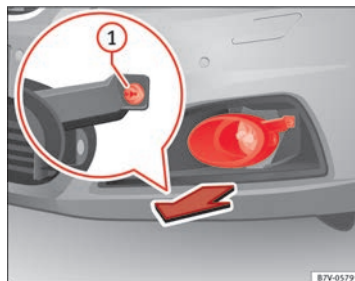

Fig. 209 On the right-hand side of the front bumper: Removing the headlights
2. Pull the cover forwards, in the direction of the arrow ⇒ fig. 209.
3. Unscrew the attachment screw ⇒ fig. 209 ① using the screwdriver from the on-board tools ⇒ page 324.
11. Tighten the attachment screw ⇒ fig. 209 ① using the screwdriver.
12. Replace the cover on the bumper ⇒ fig. 209.